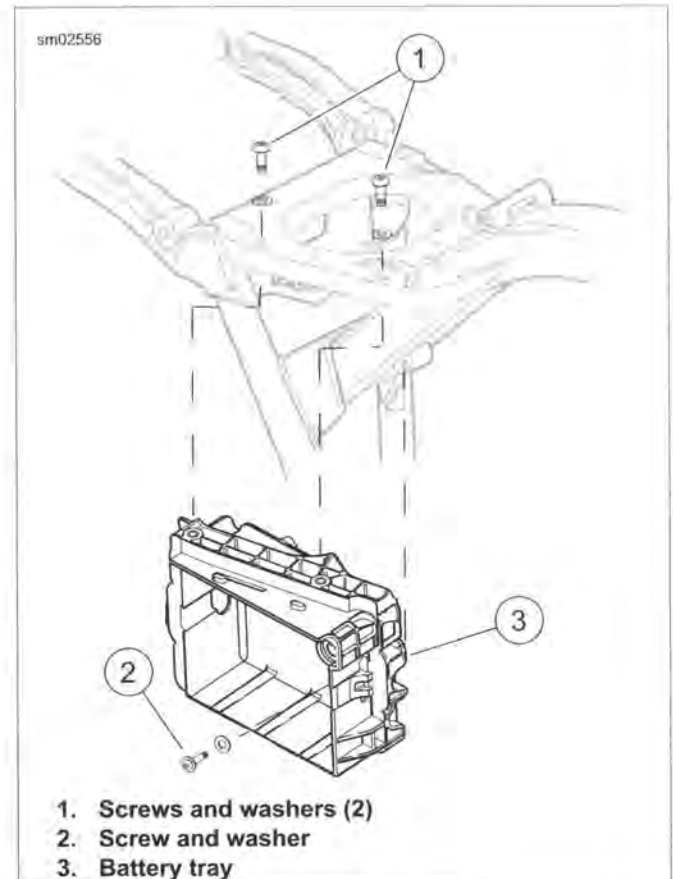

Figure 7-14. Battery Tray
- See Figure 7-14. Remove two screws and washers (1).
- Remove screw and washer (2).
- Guide battery cables out through holes in rear of battery tray (3). Remove tray.
- See Figure 7-14. Install screws and washers (1, 2). Tighten to 96-120 in-lbs (10.8-13.6 Nm).